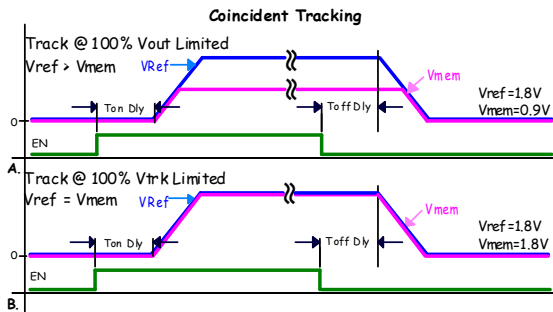

FIGURE 15. COINCIDENT TRACKING
The ZL9101M offers two modes of tracking: coincident and ratiometric. Figures 15 and 16 illustrate the output voltage waveform for the two tracking modes.
1. Track at 100% Vout limited. Member rail tracks the reference rail and stops when the member reaches its target voltage, Figure 15 \(A\).
2. Track at 100% Vtrk limited. Member rail tracks the reference at the instantaneous voltage value applied to the VTRK pin, Figure 15 \(B\).